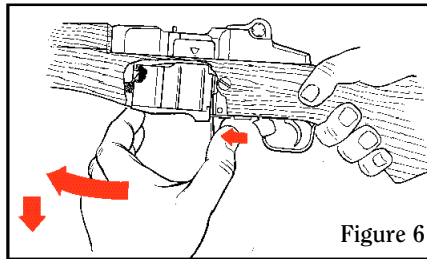

Figure 6
1. **With the rifle pointing in a safe direction, safety “ON”, remove the magazine** by pushing catch forward to release magazine, while drawing magazine down and forward (See Fig. 6).